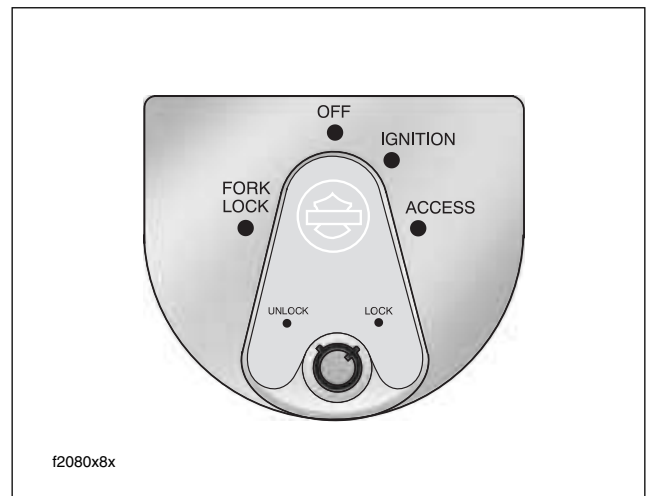

Figure 3-7. Ignition Switch (FLHX, FLHT/C/U, FLTR)
- See Figure 3-7. “Key ON” means that the ignition key is turned to IGNITION and the engine stop switch is set to RUN (although the engine is **not** running).